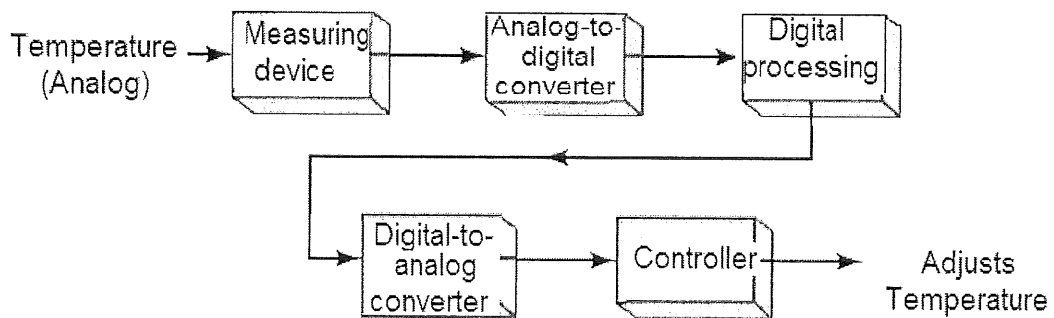

Figure 1
- b) Describe the temperature adjustment process based on the block diagram of analog digital conversion (ADC) in Figure 1. (10 marks)